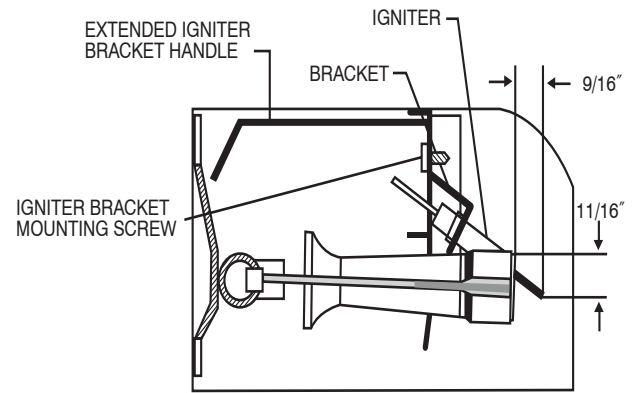

Fig. 13 – Igniter Bracket
- c. Using a 1/4-in. driver, remove the single screw securing the igniter bracket to the burner box bracket (See Fig. 13.) and carefully withdraw the igniter and bracket assembly through the front of the burner box without striking the igniter on surrounding parts. Note that the igniter bracket has a handle that extends to the front of the burner box to aid in handling. (See Fig. 13.)